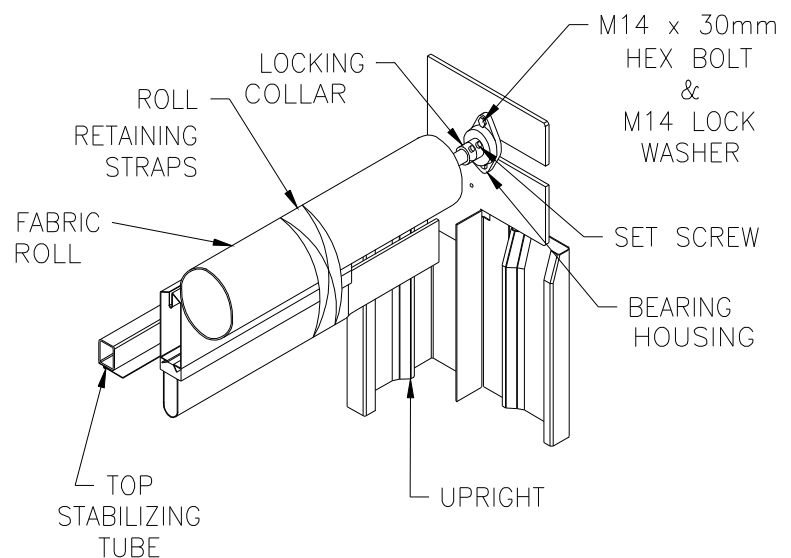

FIG. 7
- Place shaft with keyway on the same side as the electrical Upright (Figure 7).
- b. Tighten set screws on Bearing Collars (Figure 7).